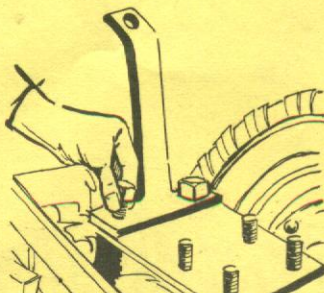

Figure 2
Step 2: Remove rear bolts holding seat base plate. Attach spring bracket (see Fig. 2), using bolts F357. NOTE: do not use lock washers if tractor has fenders.